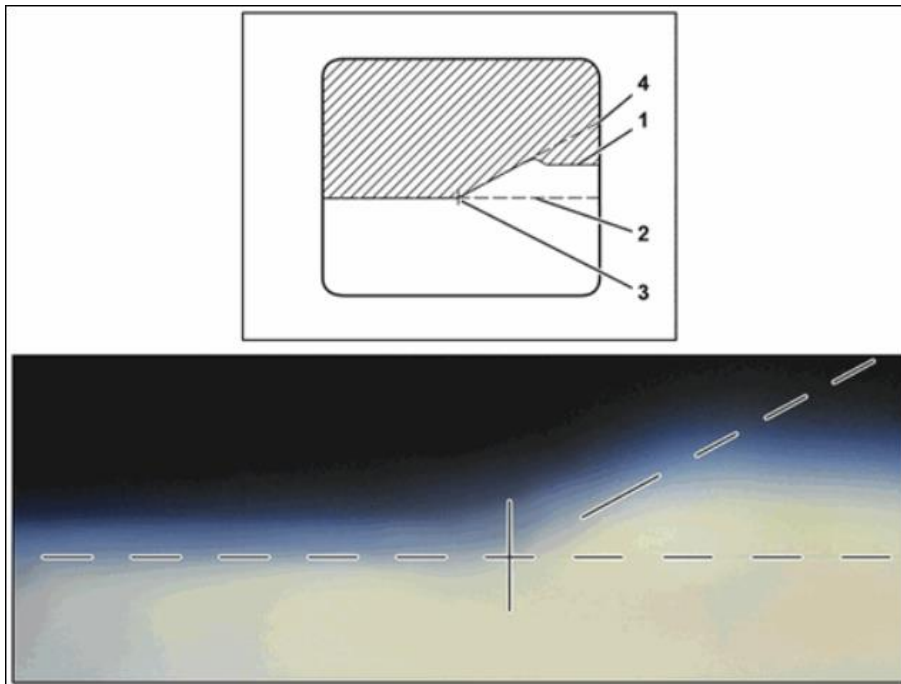

Figure 1
The side adjustment reference line (4, Figure 1) must pass through the central marking (3) of the height adjustment reference line (2).